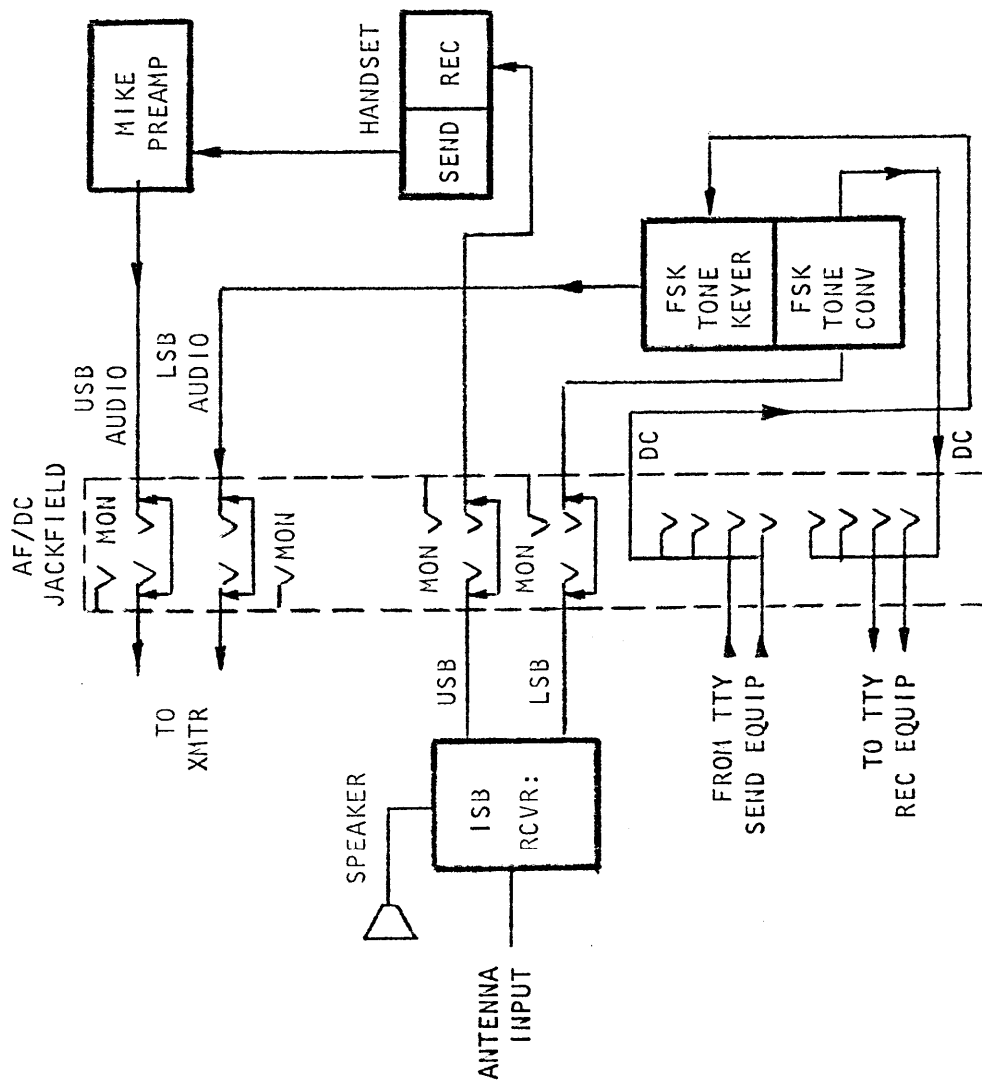

Figure 4-1. Block Diagram, SYM3204A Receiving System
4-2. BLOCK DIAGRAM ANALYSIS (Refer to figure 4-1).
- b. Block Diagram for SYM3204A (figure 4-1).